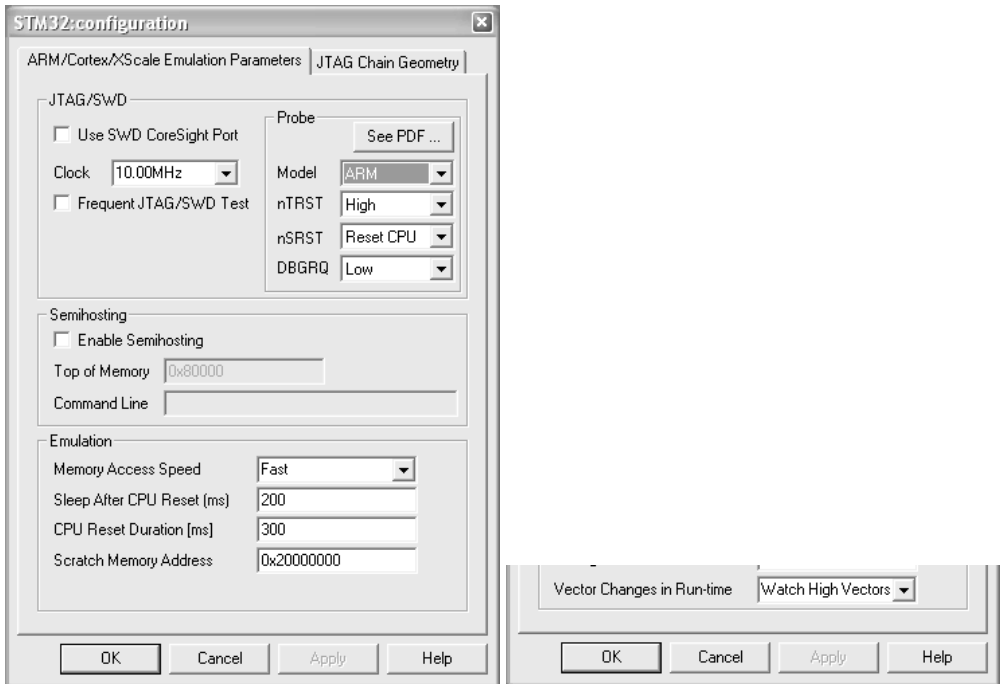

FIGURE 10 The ARM/Cortex/XScale Emulation Parameters tab for ARM targets (left) and XScale targets (right).
10. Click on the **ARM Emulation Parameters** tab. This tab allows you to control semihosting (virtual I/O), the JTAG clock speed, the JTAG pin configuration, and the reset timing. Note the difference between the tab for ARM targets and the tab for XScale targets (Figure 10).